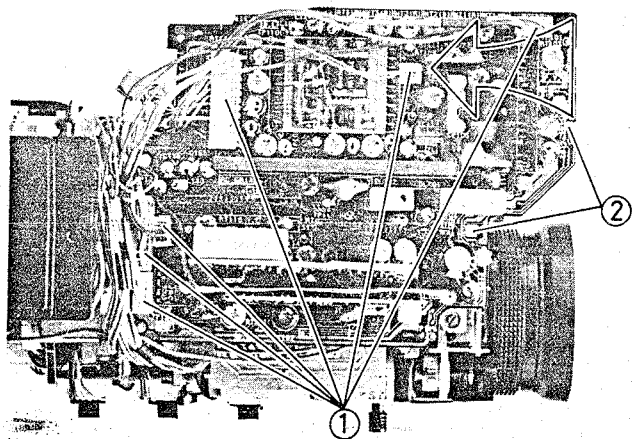

Fig. 2-20 Process Circuit Board Removal
Process Circuit Board Removal (Figs. 2-20, 2-21)
1. Disconnect six (6) connectors (CN1107, CN018, CN1315, CN1509, CN1619, CN1526). (See Fig. 2-20)
2. Release two (2) tabs and open the process circuit board in the direction of the arrow.
10. Open the process circuit board. (See Fig. 2-20)